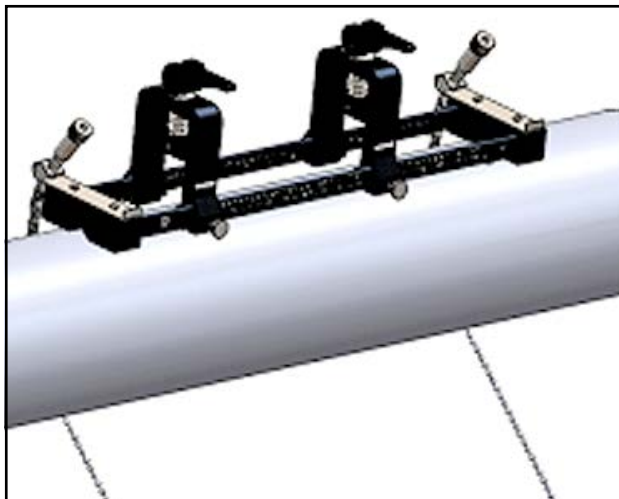

Figure 11: Fixture Placed on Top of Pipe
4. Place the clamp-on fixture on top of the pipe so that minimal effort is required to maintain its position during installation (see *Figure 11* on page 9).